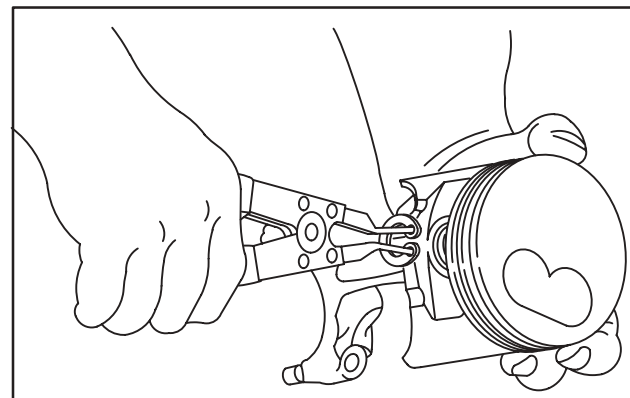

Fig. 2 – Disassembling Piston/Connecting Rod
2. Disassemble piston from connecting rod, Fig. 2.